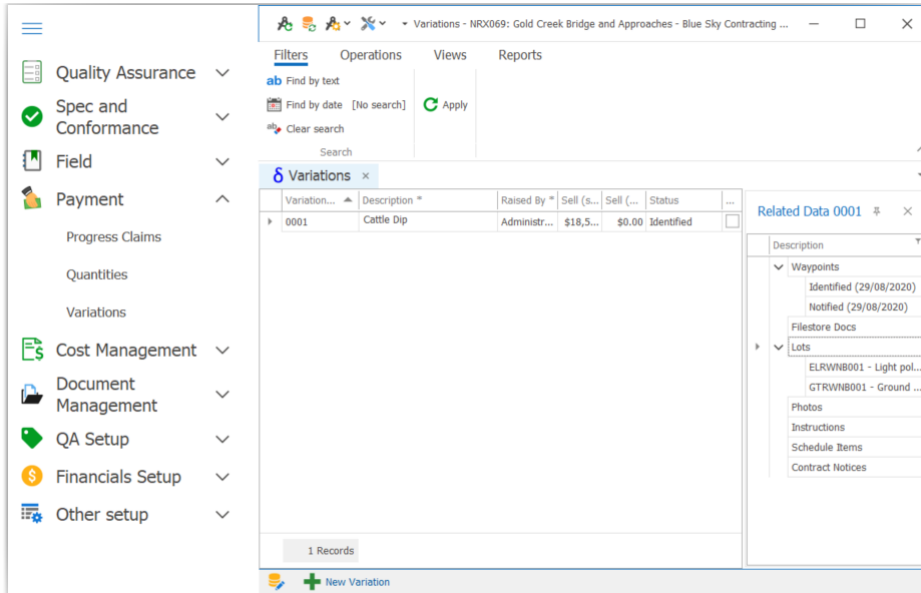

Figure 84 Variation register with linked Lots
6. Click *Save & Finish* - your Variation is now visible in the Variation Register. Now link the effected lots as you would any other related item i.e. double click on the Lots heading in the related items panel and select the lots from the Lot Selector. Your Variations Register should look like that in Figure 84.